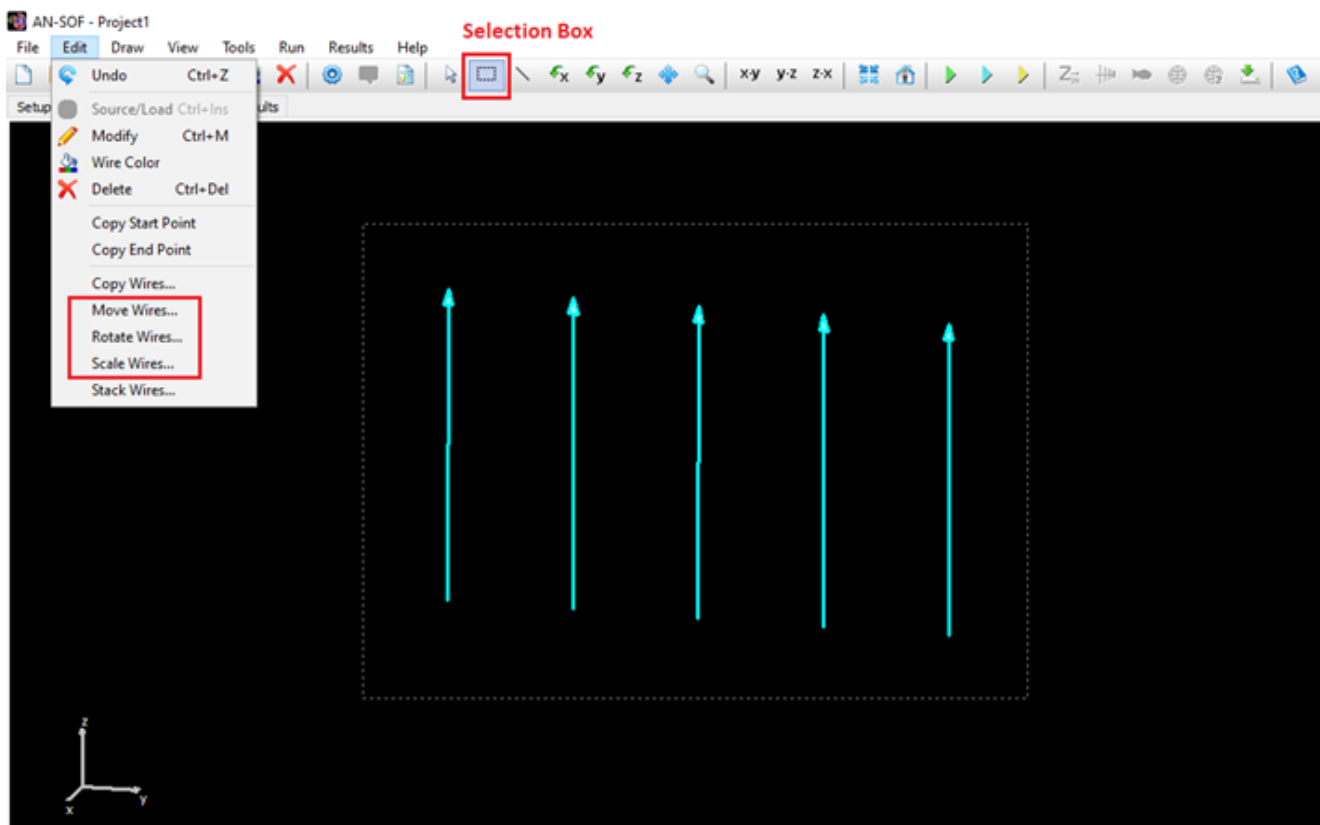

Fig. 1: “Selection Box” button on the toolbar to select a group of wires and commands in the Edit menu to move, rotate, and scale the selected wires.
- Drag a box using the mouse while holding the left button to enclose the wires you want to modify (see Fig. 1).